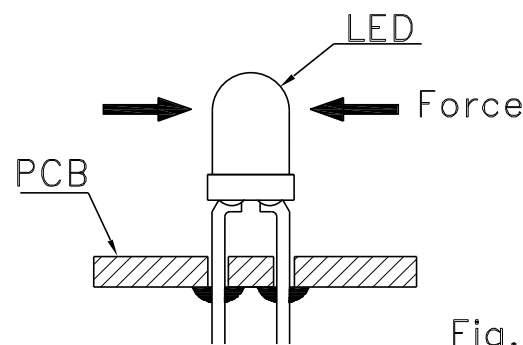

Fig. 9
- 6. After soldering or other high-temperature assembly, allow the LED to cool down to 50°C before applying outside force (Fig. 9). In general, avoid placing excess force on the LED to avoid damage. For any questions please consult with Kingbright representative for proper handling procedures.